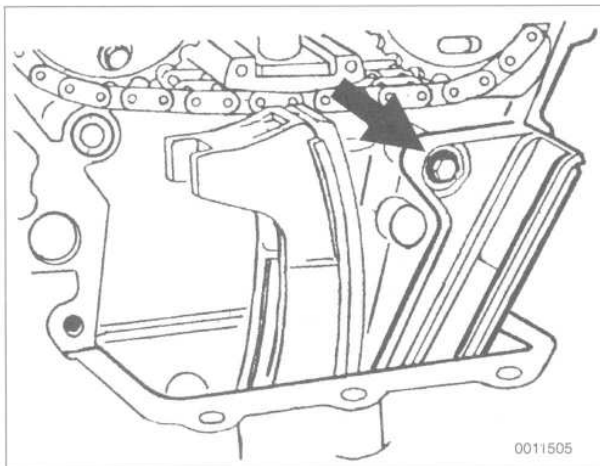

Fig. 52. Timing chain inner guide rail mounting bolt (arrow).
18. Remove upper bolt from inner timing chain guide rail. See Fig. 52.